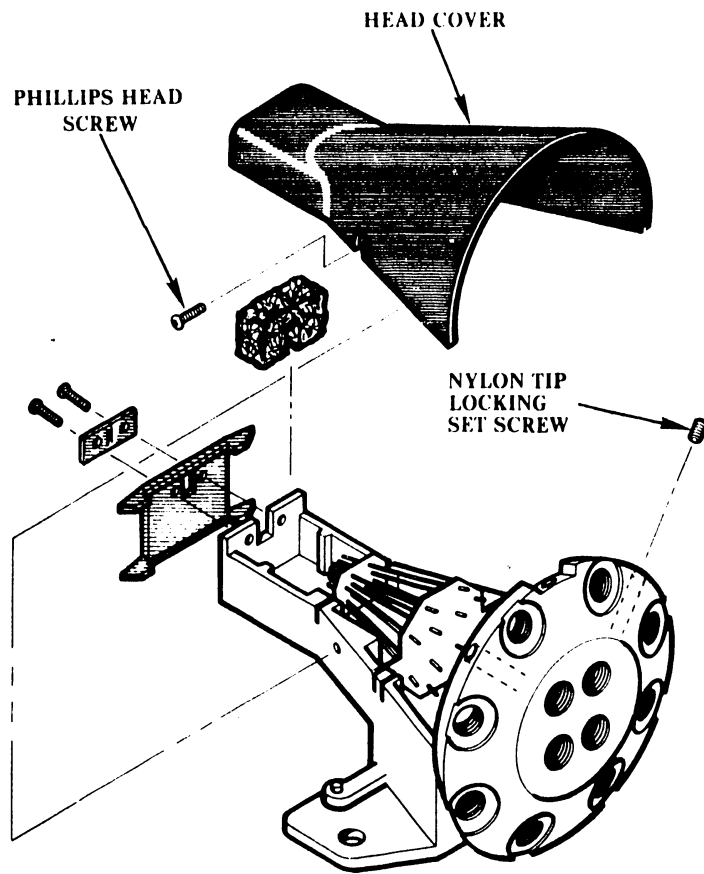

FIGURE 6-13 PRINT HEAD (EXPLODED VIEW)
- 1) Remove the head cover by removing the two Phillips screws. (See Figure 6-13.)